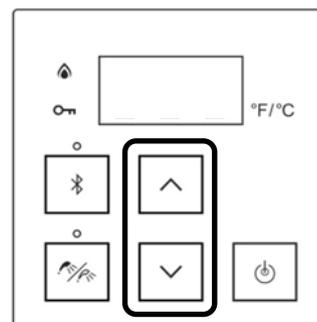

Figure 68
3. Press the up or down arrow buttons to obtain the desired temperature setting (Figure 68).